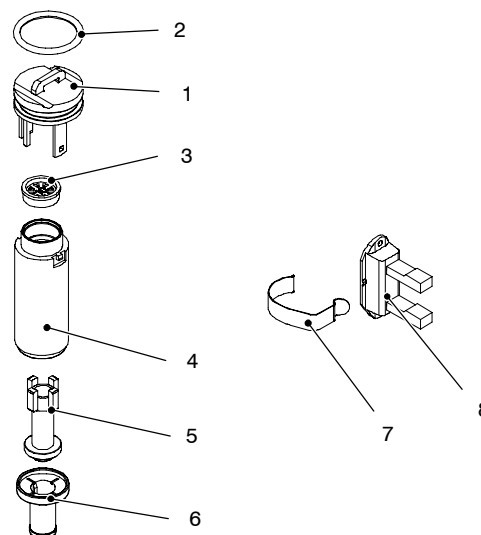

Fig. 3
14.2 Nomenclature and location of parts (Fig. 3)
- 2 Disconnect the connectors B and remove the sensor holder spring 7 (Fig. 2 – Fig. 3).